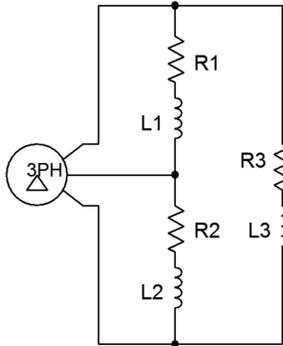

Figure 9.5
9. A 3-phase  $\Delta$  connected generator feeds a  $\Delta$  connected load consisting of 3 legs of  $10 \Omega$  in series with  $j4 \Omega$  of inductive reactance, as shown in Figure 9.5. If the line voltage is 208 volts, find the voltage across each load leg, the current through the wires connecting the load to the generator, and the apparent and real powers drawn by the load.
10. Given the delta-delta system of Figure 9.5, if the generator phase voltage is 120 volts and the load is balanced with each leg at  $20 + j10 \Omega$ , determine the line voltage, line current, generator phase current, load current, the voltage across each load leg, and the total real and apparent load powers.